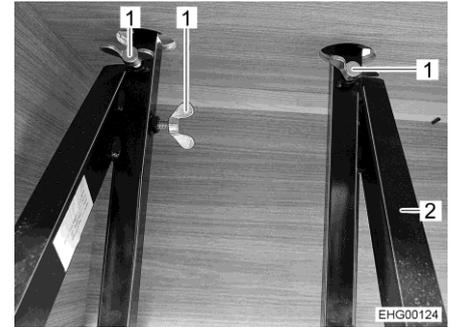

Fig. 32 Wing screws
- Tighten the three wing screws (Fig. 32,1) on the rods (Fig. 32,2) in the chest frame.